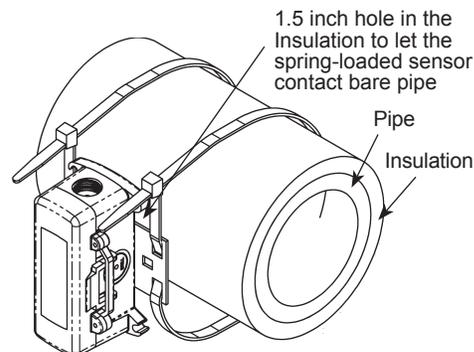

Fig. 7: Spring Loaded Strap Unit Mounting (BAPI-Box 2 Enclosure shown but mounting is similar for all BAPI-Boxes.)
1. Figure 7 shows a typical direct pipe installation for insulated pipes from 5" to 14". Insulation thickness accommodated is 0.5" to 2.5".